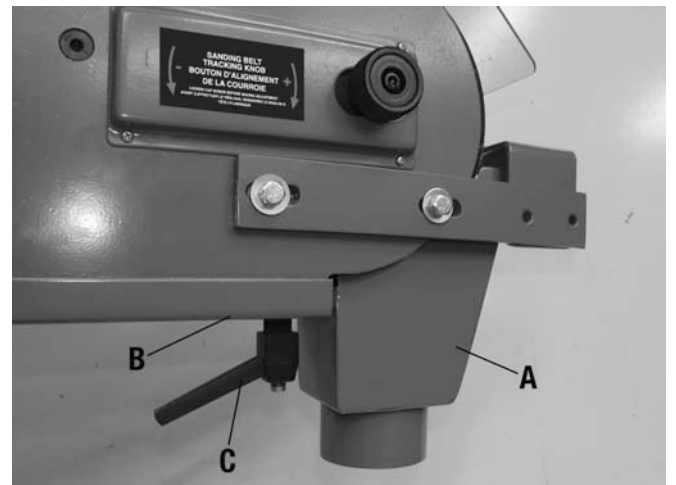

FIGURE 5
1. Install the front dust port (A) Fig.5 to the slot underneath the frame (B) and secure it using the spring loaded lock handle and large washer (C).